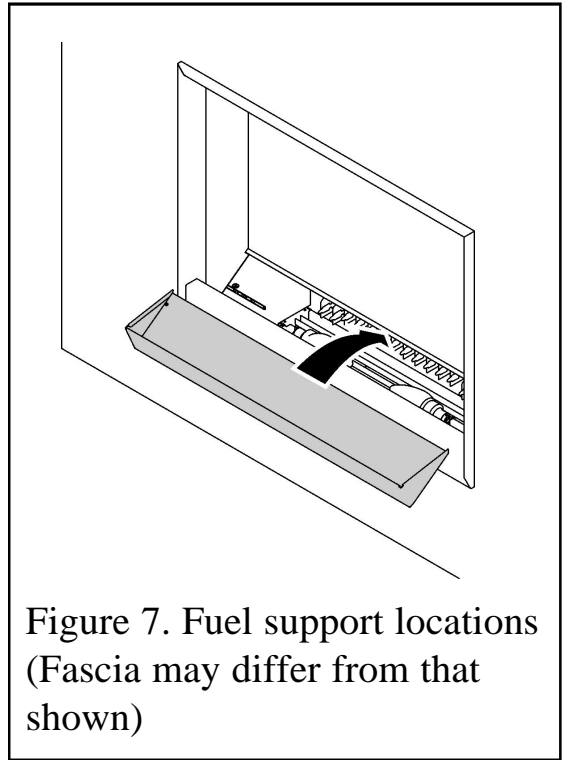

Figure 7. Fuel support locations (Fascia may differ from that shown)
1. Locate the fuel support as in figure 7.